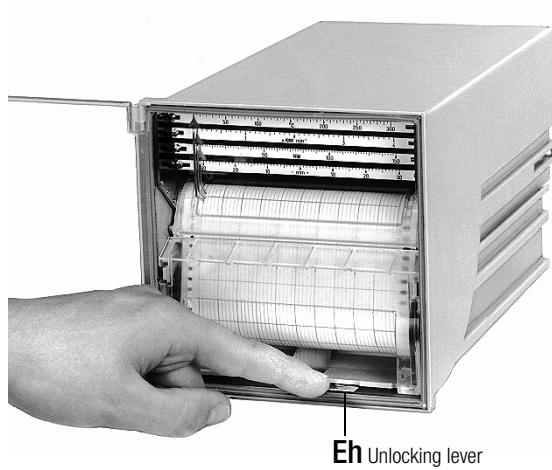
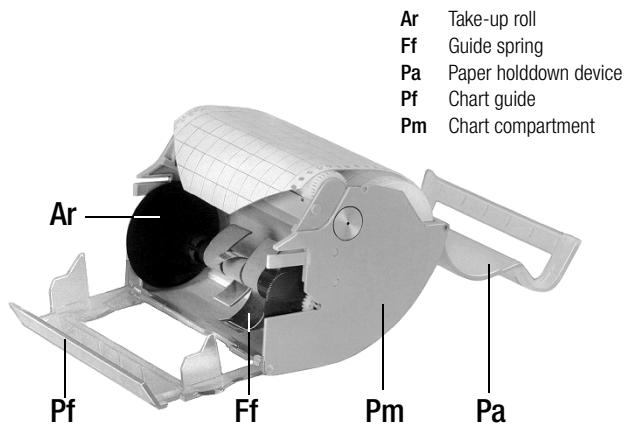
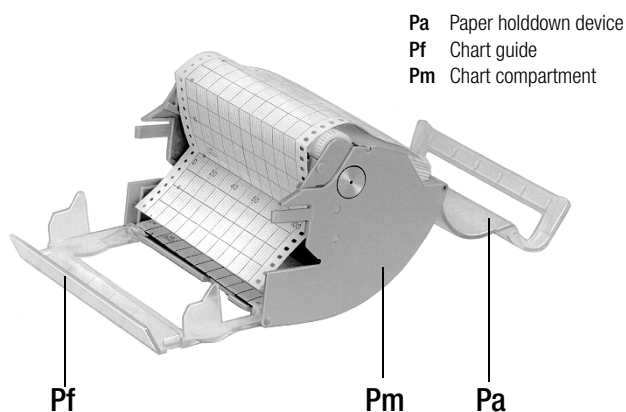

Figure 5 Unlocking the recording table
Figure 6 Recording table for roll chart
Figure 7 Recording table for fanfold chart
(see Figure 5 and Figure 6)
1. Unlock the recording table: Press the unlocking lever **Eh** downwards (see Figure 5). The recording table tilts to the front. Remove the recording table.
(see Figure 5, Figure 6 and Figure 7)
When changing the recording table for roll chart to fanfold chart, remove the guide spring **Ff** (see Figure 6).
1. Unlock recording table: press locking lever **Eh** down (see Figure 5). Recording table swivels to the front.